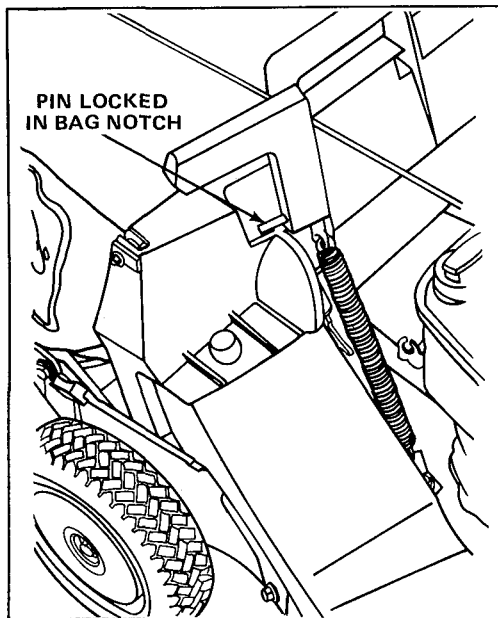

Figure 13
4. Pull discharge door handle forward until pin clears catch and move handle rearward until pin locks in bag notch (Fig. 13). Discharge door in mower housing is now open.